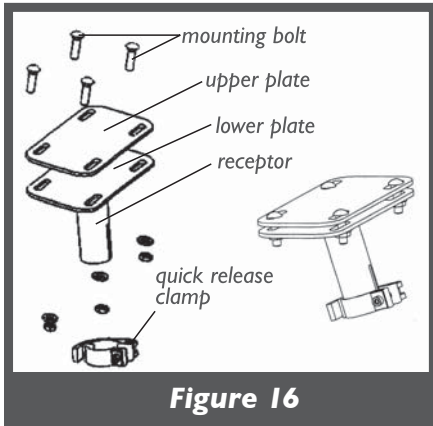

Figure 16
3. BASKET ATTACHMENT AND MOUNTING (FIG. 16)